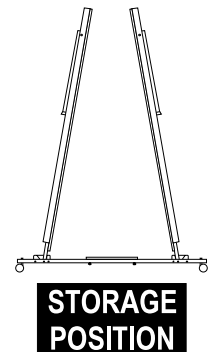

**Figure 4**
4. Lock all four center hinges. See Figure 4.